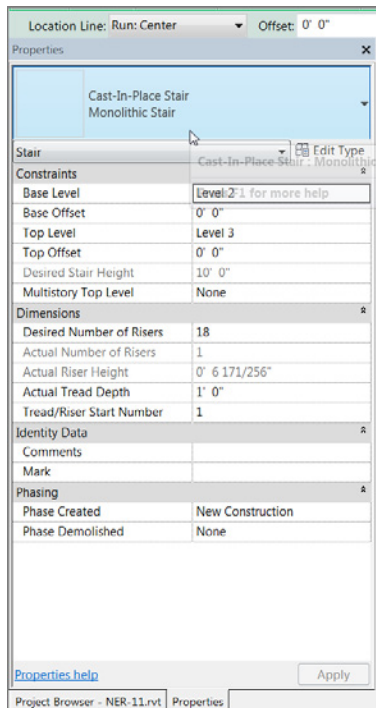

FIGURE 10.63: Configuring the stairs. As you can see, you have quite a few options.
2. In the Properties dialog, make sure you choose Cast-In-Place Stair Monolithic Stair, as shown in Figure 10.63, and click the Edit Type button.